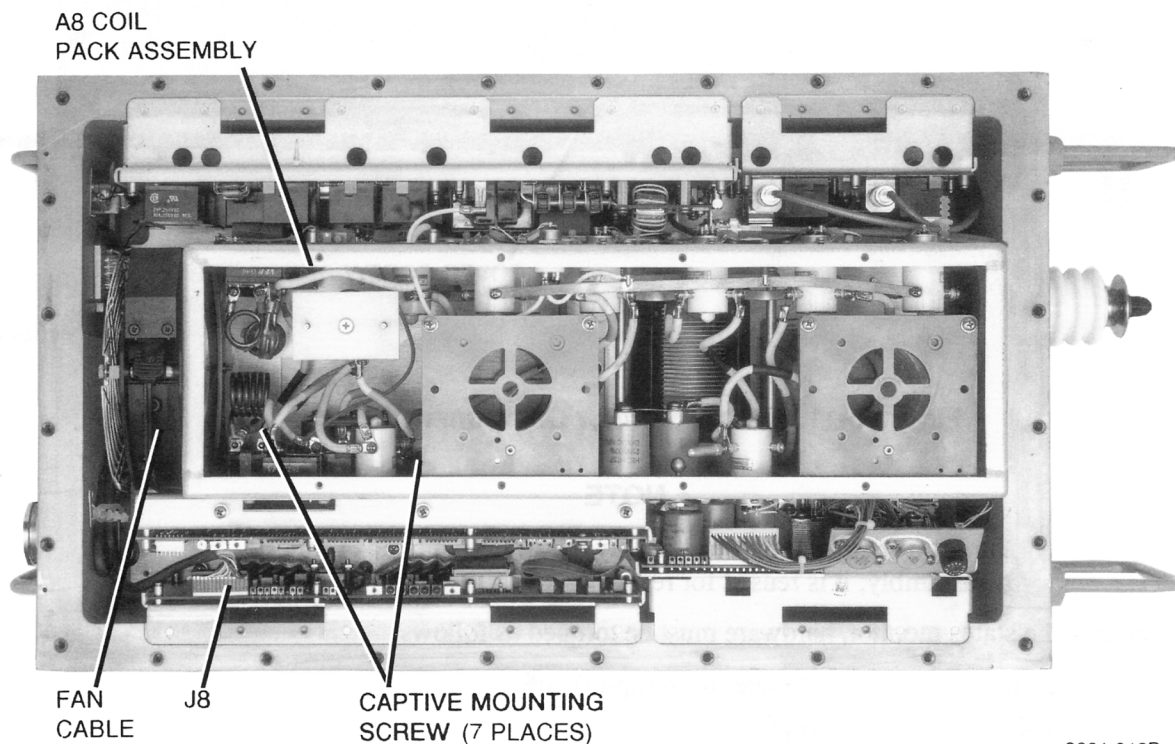

Figure 5-10. Coil Pack Assembly A8 Removal
5.5.11 Coil Pack Assembly A8 Removal (See figure 5-10)